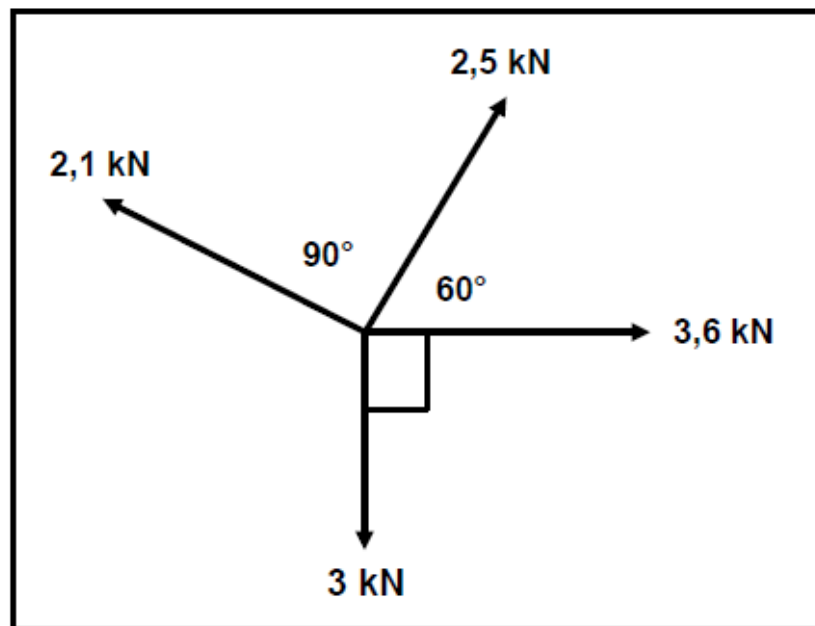

FIGURE 2.1.1
2.1.1 Four forces of 3 kN, 2,1 kN, 2,5 kN and 3,6 kN respectively have the same acting point as shown in FIGURE 2.1.1.